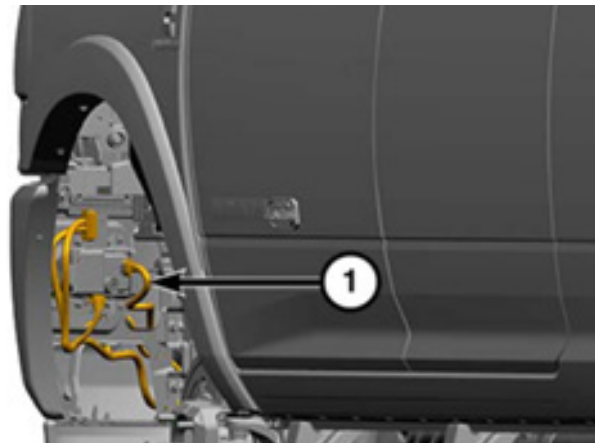

Figure 6
6. Disconnect the factory wiring harness from the inside of the driver side wheel well. (Figure 6)